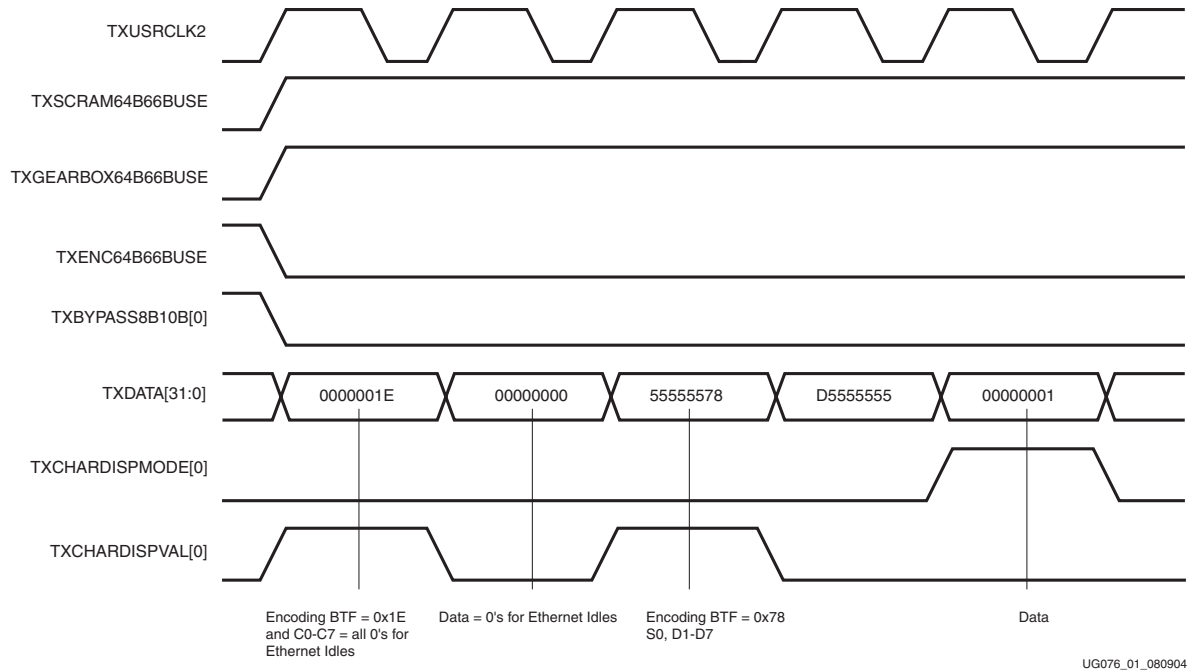

Figure 3-12: 64B/66B Encoder Static Bypass Waveform
- {TXCHARDISPVAL[0], TXCHARDISPMODE[0]} = 00 = other 32 bits of encoded 64 bits when fabric data bus = 32. This is shown in Figure 3-12.